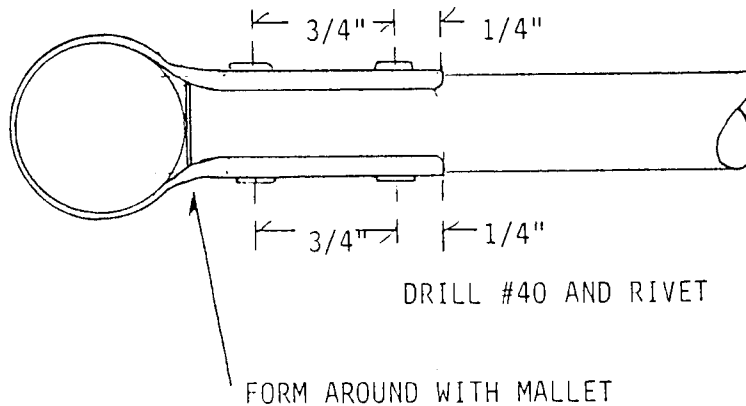

FIGURE 011-016
16. Using the 36" x 1/2" x .020 aluminum strip cut (with a scissors) four (4) strips 5" long. (Six (6) if you don't have doors). Wrap these around the S-3 tube and rivet to each stringer with (4) 3/32" pop rivets each. See Figure 011-016.